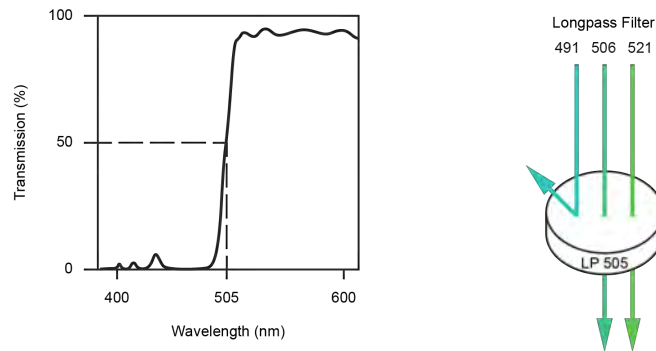

Figure A-5 505 nm Longpass Filter
Longpass (LP) filters pass wavelength longer than the cutoff wavelength. For example, a 505 nm LP filter allows wavelengths longer than 505 nm to pass through it and either absorbs or reflects wavelengths shorter than 505 nm (Figure A-5).